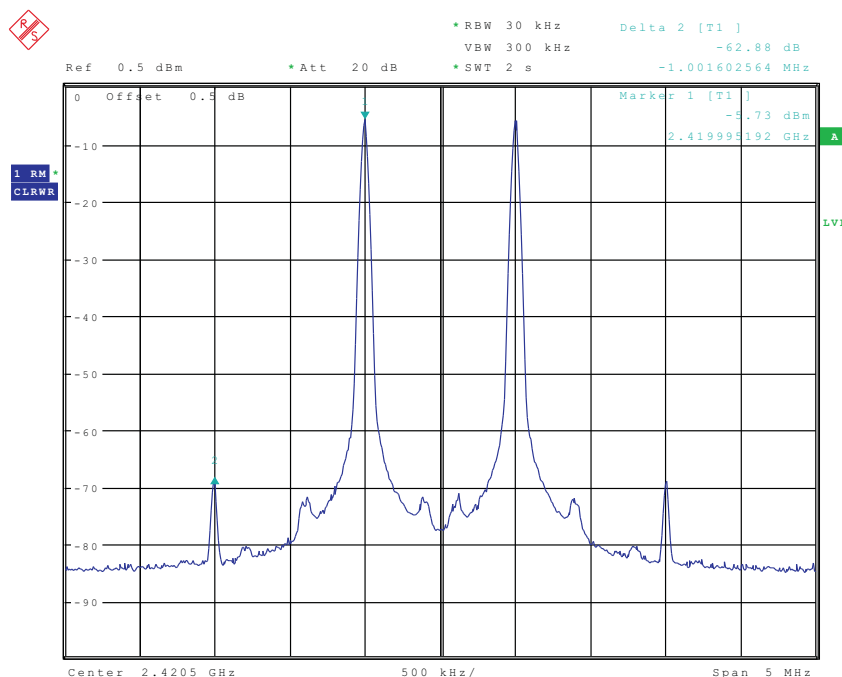
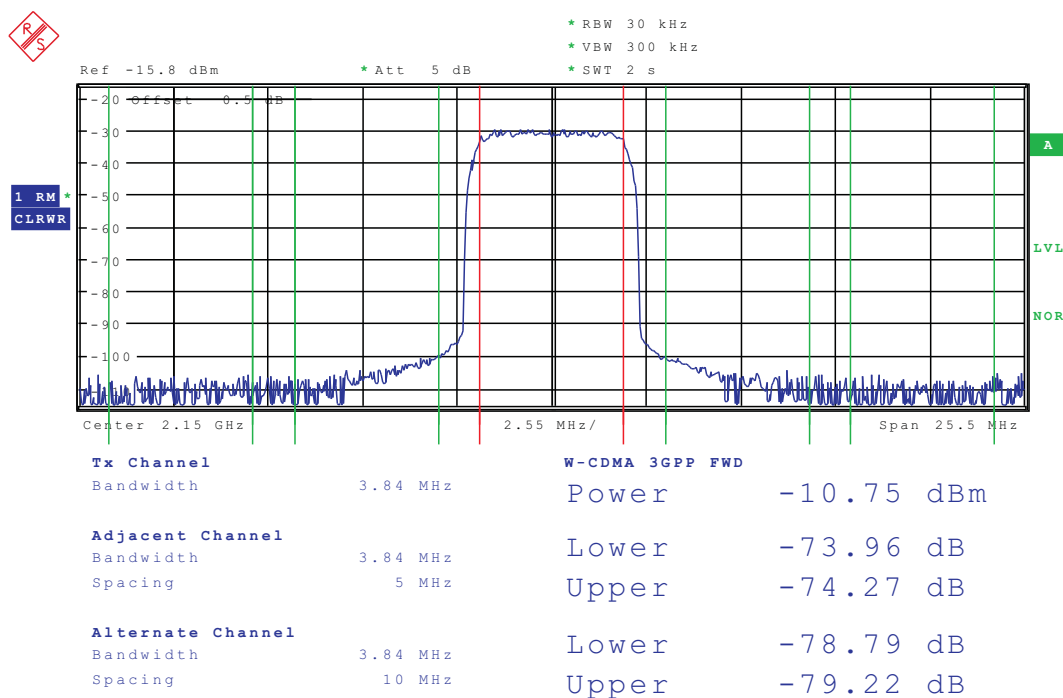
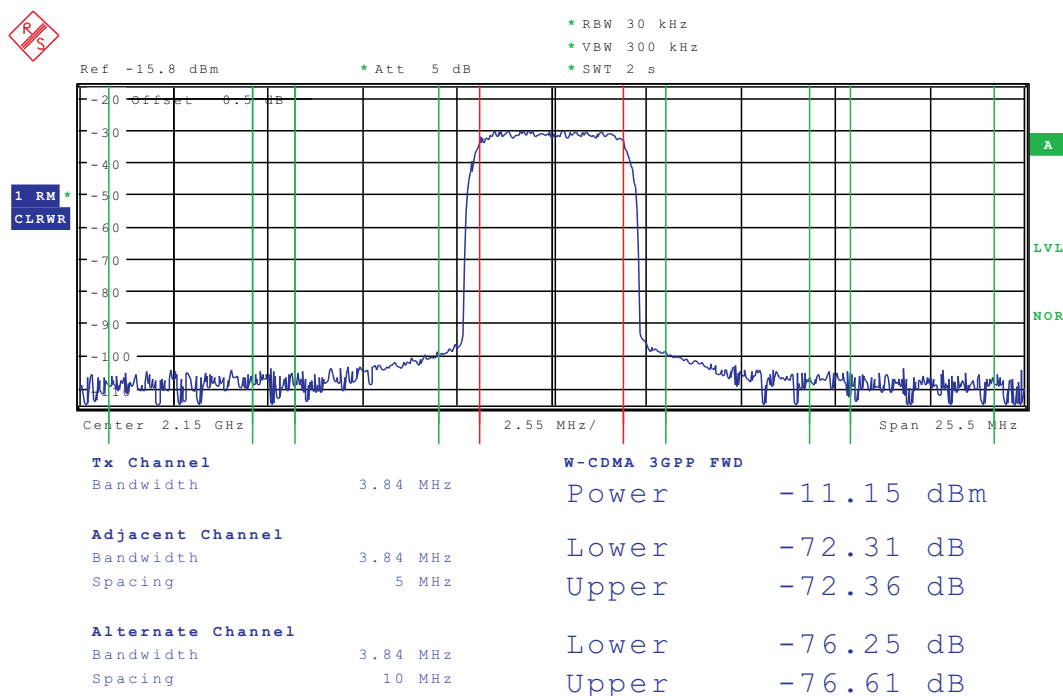

Figure 6. Two-Tone IMD Performance: LO = 2400 MHz, DAC Clk = 614.4 MHz, 2× Interpolation, IF = 20, 21 MHz
Figure 7. WCDMA ACPR: LO = 2120 MHz, DAC Clk = 614.4 MHz, 2× Interpolation, 30-MHz Offset
Figure 8. WCDMA ACPR: LO = 1966.4 MHz, DAC Clk = 614.4 MHz, 2× Interpolation, $f_s/4$ mixing, 30-MHz Offset
7. Monitor the output signal at the RF output connector. If default LO frequency of 2400 MHz is used and the TSW3100 is set up with two tones at 20 MHz and 21 MHz, then the tones seen in Figure 6 are at 2420 MHz and 2421 MHz.
Figure 6, Figure 7, and Figure 8 show the typical two-tone and ACPR performance of the DAC3282 EVM from the setup in Section 3.4. This performance incorporates the DAC device and the TRF3720 modulator device.